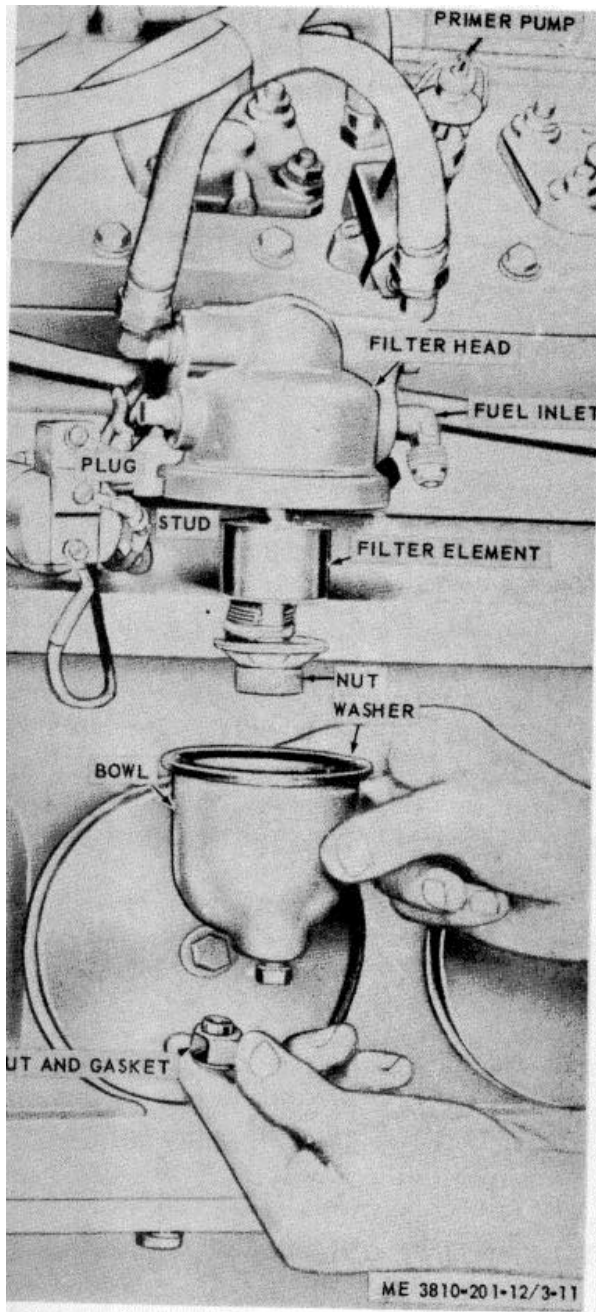

Figure 3-11. Primary fuel filter service. (model 687C-18-ES).
(1) Remove nut and gasket (fig. 3-11) which secures bowl to filter head and remove bowl and washer.
(2) Remove nut that secures filter element to stud in filter head, then remove filter element.
(3) Clean all parts in an approved cleaning solvent and dry thoroughly with compressed air